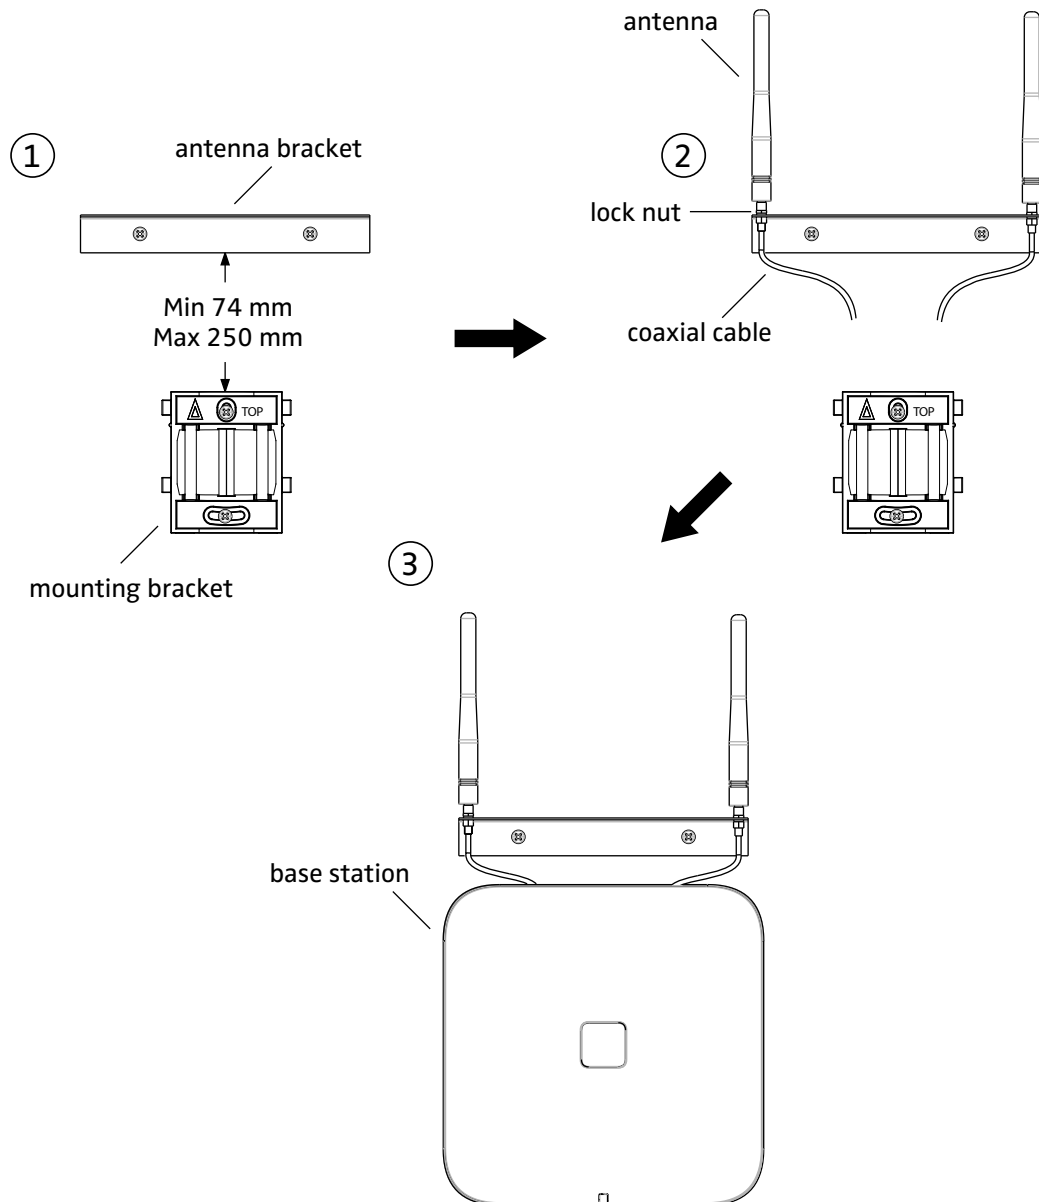

Figure 11. Connect external antennas.
- 1 Position the included antenna bracket above the mounting bracket with a minimum distance of 74 mm (250 mm maximum) and mark the two holes for the antenna bracket, see figure 11 on page 22 (1).
- 4 Mount the two included coaxial cables on the antenna bracket, see figure 11 on page 22 (2). Fasten the coaxial cables with the lock nuts which are found on the coaxial cable antenna connectors.
- 5 Mount the antennas on the antenna connectors (2).
- 7 Mount the base station (3), see 3.2.9 Mount the Base Station on page 24.